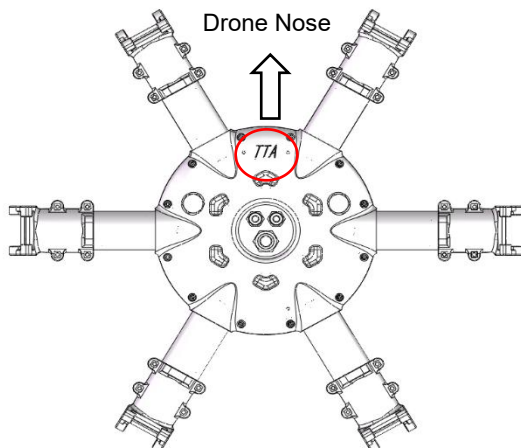
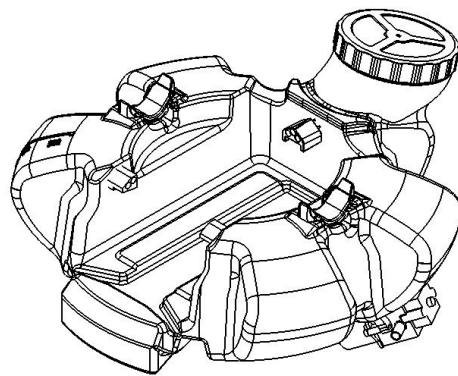

Figure 1
Figure 2
Take out drone head and tank assembly, as shown in Figure 1 and Figure 2. (The direction indicated by the arrow on dome, or the position with the TTA mark on the bottom of dome indicates the direction of drone nose.)
- 1) Put the upside of drone head down as Figure1.